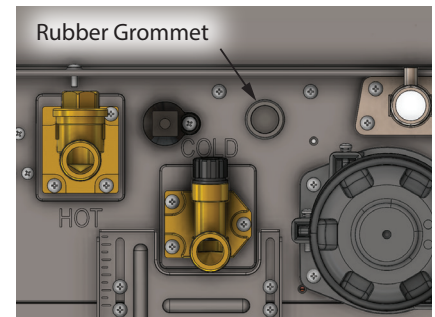

Figure 30 - Bottom of water heater - Grommet
- 6 Use Figure 30 to locate the rubber access grommet on the bottom of the water heater. Route the single harness end of the Cascade Linking Cable through the bottom and around to the circuit board.